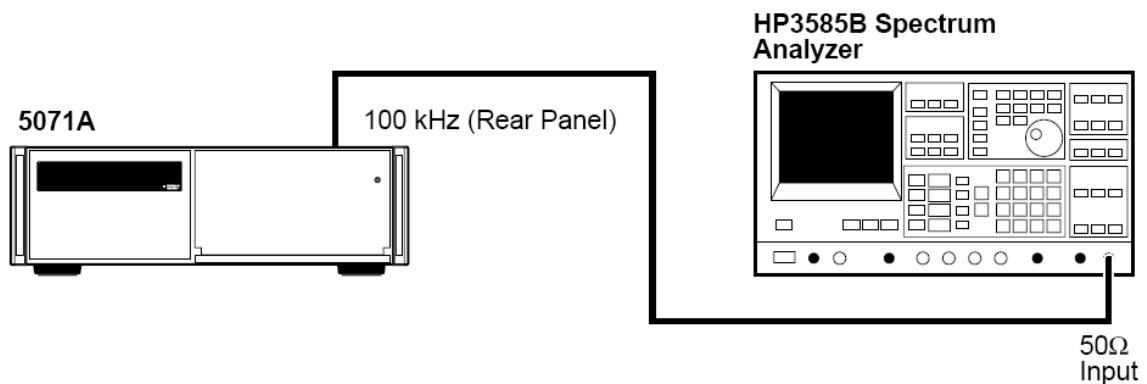

Figure 1-6. 100 kHz Harmonic Distortion Test Setup
- 1 Connect the 5071A 100 kHz output to the 3585B Spectrum Analyzer as shown in Figure 1-6. Set the 3585B for 50Ω input impedance.